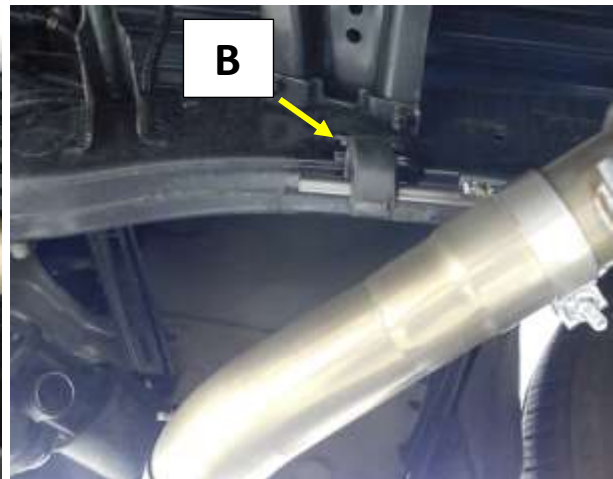

Figure 8
13. Install the Exhaust Isolator (B) at the frame hanger. **Fig.8**